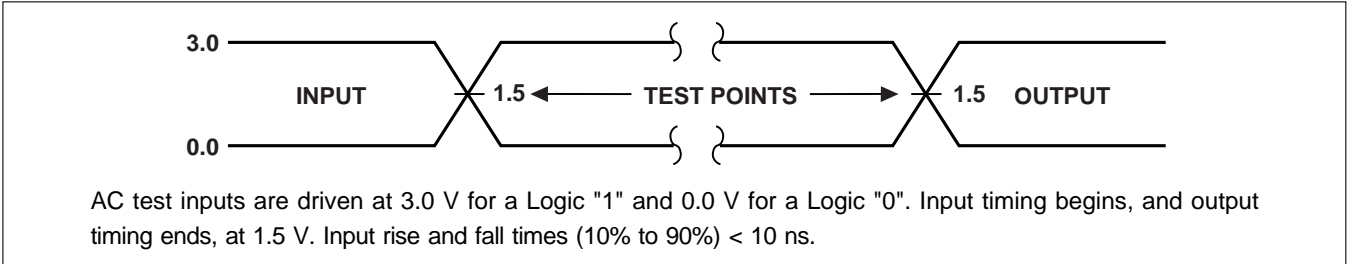
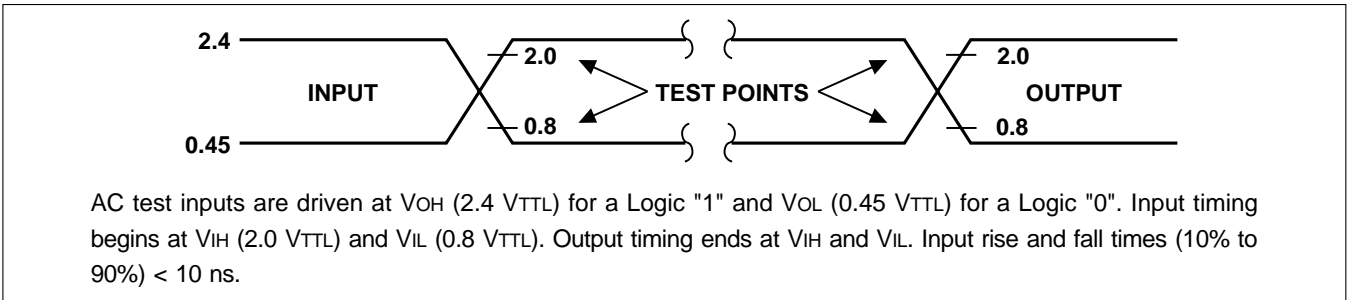
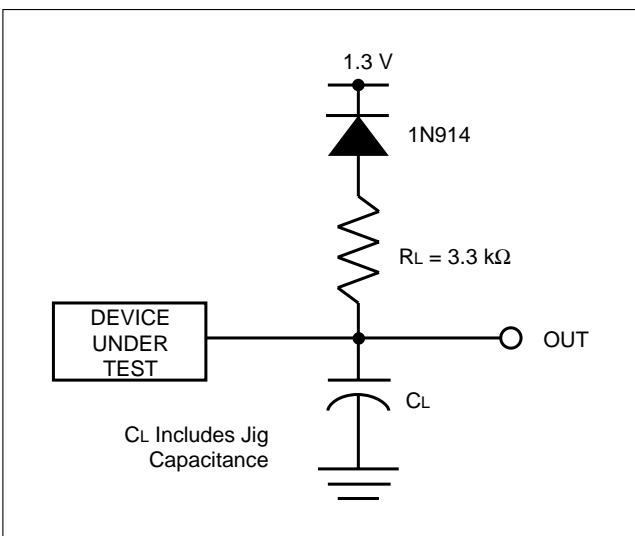

Fig. 9 Transient Input/Output Reference Waveform for Vcc = 5.0±0.25 V (High Speed Testing Configuration)
Fig. 10 Transient Input/Output Reference Waveform for Vcc = 5.0±0.5 V (Standard Testing Configuration)
Fig. 11 Transient Equivalent Testing Load Circuit
1. See AC Input/Output Reference Waveform (Fig. 9 and Fig. 10) for maximum allowable input slew rate.
4. See Fig. 9 "Transient Input/Output Reference Waveform" and Fig. 11 "Transient Equivalent Testing Load Circuit" (High Speed Configuration) for testing characteristics.
5. See Fig. 10 "Transient Input/Output Reference Waveform" and Fig. 11 "Transient Equivalent Testing Load Circuit" (Standard Configuration) for testing characteristics.